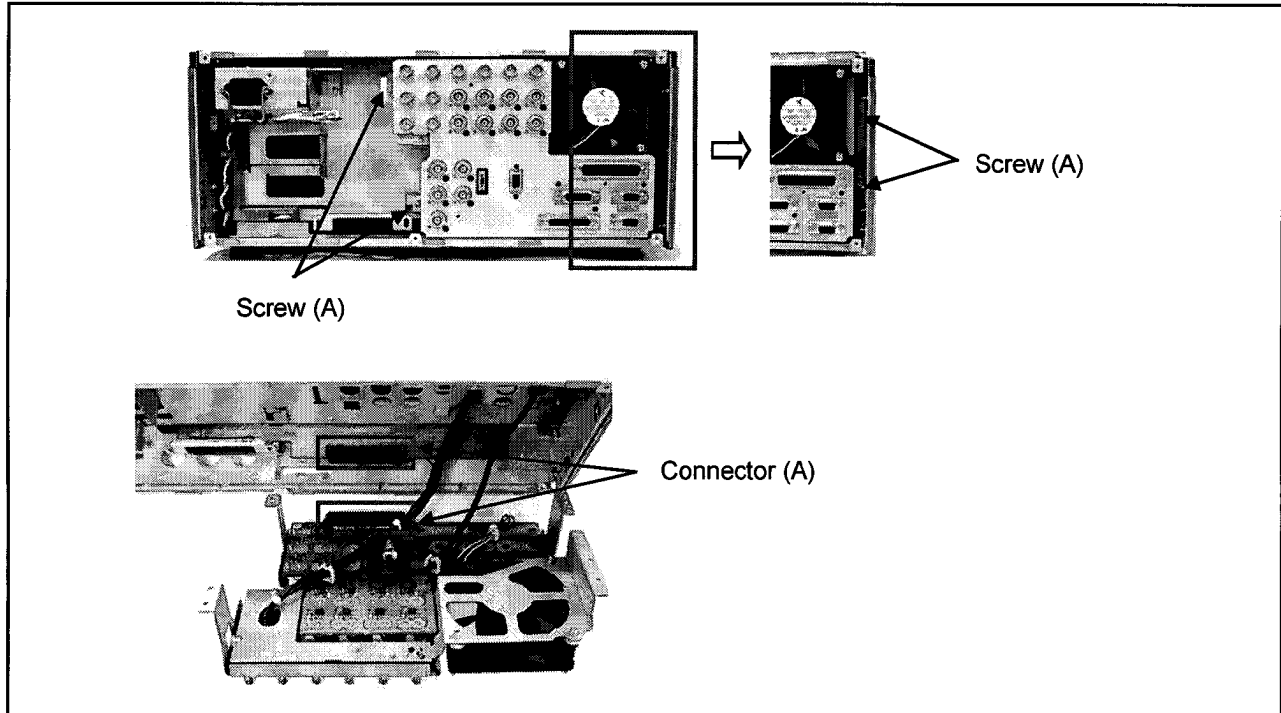

Figure 10-1
3. Unscrew the 4 screws (A) as shown in figure 10-1.
4. Disconnect a connector (A) combined with the MOTHER P.C.Board as shown in figure 10-1 and remove the Rear Jack unit.
1. The connector (A) should be connected completely as shown in figure 10-1 and confirm that the Rear Jack unit fitted in a unit correctly as shown in figure 10-1 when you install the Rear Jack unit.